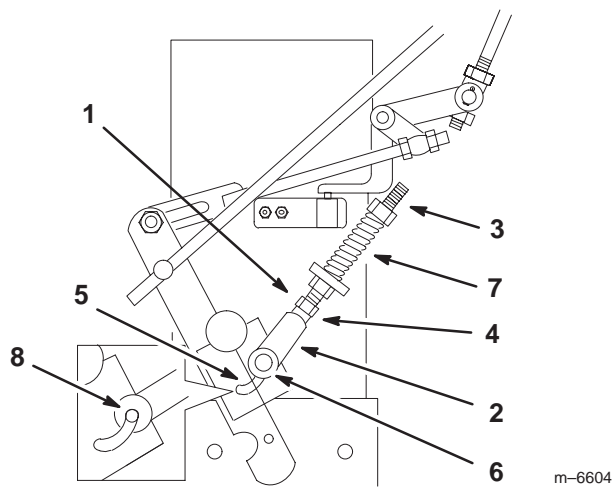

Figure 55
3. Adjust the left and right neutral stud until the clevis pin in the yoke touches the back end of the slot in the control arm (Fig. 55).
7. Loosen the nut against the yoke (Fig. 55).